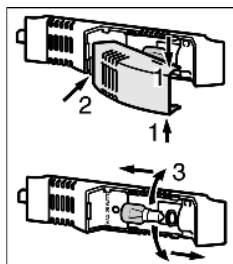

Fig. 23
- ▶ Take hold of the lamp cover at the top and bottom *Fig. 23 (1)*.
- ▶ Disengage the lamp cover at the back and detach it *Fig. 23 (2)*.
- ▶ Replace the bulb *Fig. 23 (3)*.